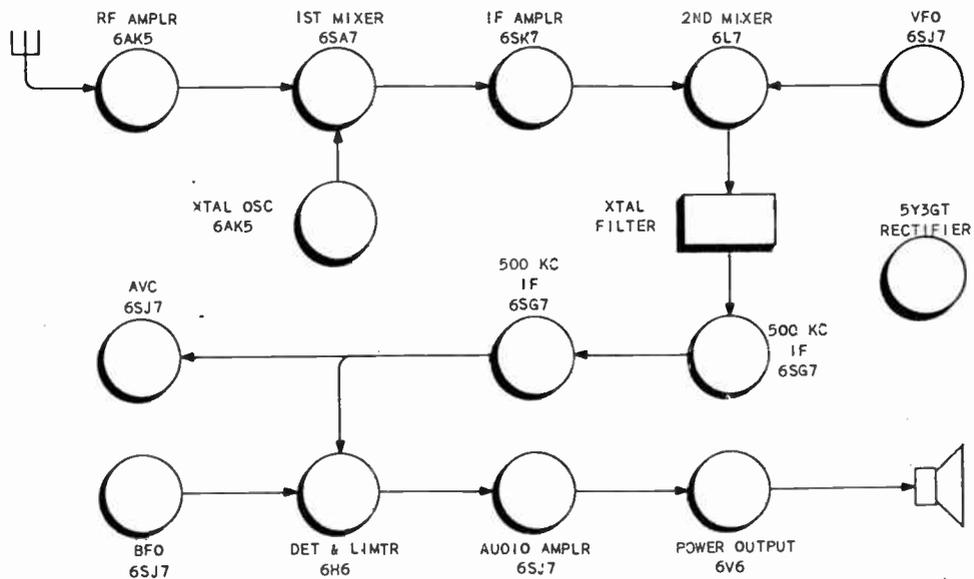

FIGURE 1-1 MODEL 78A RECEIVER
1-16. **CIRCUIT.** - Refer to figure 1-1. The double conversion circuit of the 75A employs fourteen tubes, including rectifier. The use of double conversion avoids the compromise always made in conventional receivers, i.e., a high IF is desirable for image rejection and a low IF is best for selectivity. The 75A uses two intermediate frequencies and has both features. Because of the high frequency of the first IF, only one stage of r-f amplification is needed to give extremely high image rejection. Additional stages are unnecessary and unwarranted. Following the r-f stage the incoming signal is mixed with the output of a crystal oscillator to produce the first IF. The first IF is amplified and mixed with the output of the variable frequency oscillator to produce the 500 KC second IF. The crystal filter is incorporated in the 500 KC second IF circuit. The audio is then removed from the carrier, passed through the automatic noise limiter, amplified, and fed to loudspeaker or headphones. BFO output is applied to the second detector. AVC voltage is obtained from the same point and fed to the controlled stages.
- 2-6. GENERAL. - Refer to block diagrams of the receiver, figures 1-1 and 2-1. The general plan of the 75A receiver is a result of efforts to give to the amateur a receiver which has a stability and calibration accuracy never before obtainable in any amateur receiver. In addition, the receiver features an image rejection ratio, selectivity and sensitivity not found in many receivers of modern design. Improved AVC and noise limiter circuits are incorporated to complete the long list of desirable features of the equipment. How these features are obtained is explained in subsequent paragraphs.
- 2-7. CIRCUIT. - As shown in the block diagram, figure 1-1, the receiver has one stage of pre-selection. A high gain 6AK5 tube is used here because of its excellent electrical characteristics and desirable physical features. Following the r-f stage is the first mixer of the double detection system.